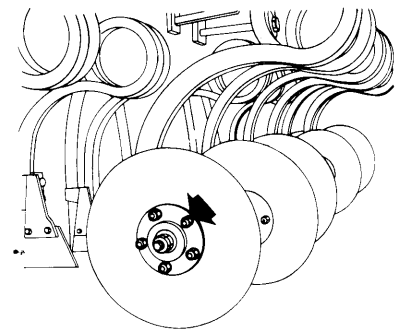

Figure 25
- 2/ Remove the 5mm retaining bolts from the coulters bearing housing.(Fig.25)